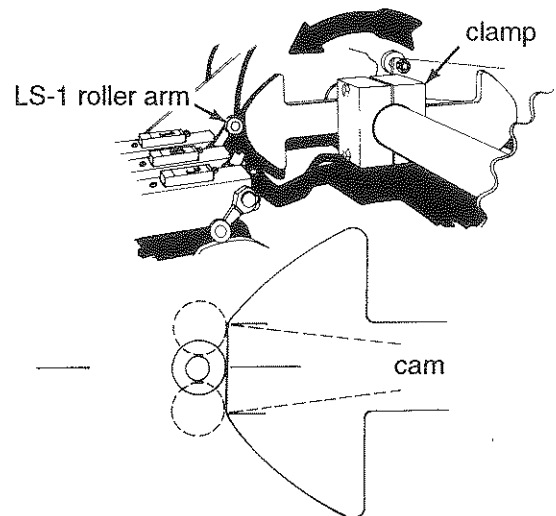

Fig. 38
7. Loosen and tighten appropriate clamp bolts (A) and (B) in order to rotate cam as necessary to center it on the switch arm roller, see Fig. 38.
14. Check needle yoke stopping position. The cam should stop with the switch arm roller near the center or slightly beyond the center of the cam as illustrated in Fig. 38 (Cool and hot oil location).
17. Repeat Steps 8-16 omitting Step 15 until the cam is in required location, see **Fig. 38**.